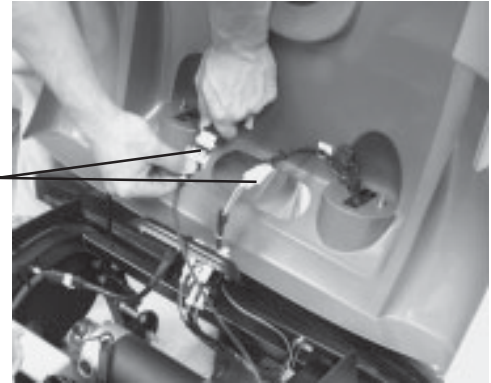

Figure 12. Disconnect Lighting Harnesses
3. Gently lift the rear shroud off of your scooter far enough to be able to disconnect the rear lighting harnesses. See figure 12.